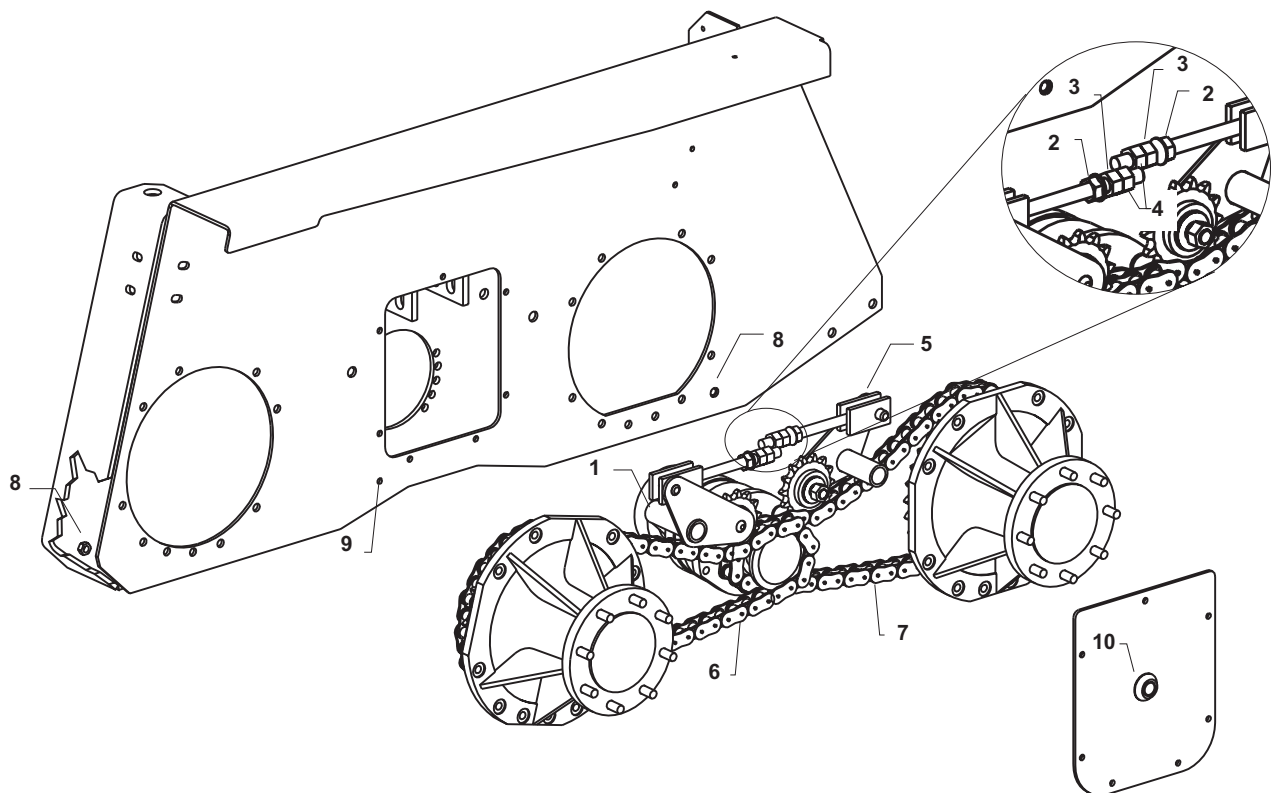

Fig. 7-2: Adjusting Drive Chain Tension - Left side shown, right side typical
Drive Chains (Fig. 7-2)
6. The correct chain deflection is 1/2" (12 mm) minimum on the side opposite from the adjuster - halfway between the sprockets (fig. 7-2).
9. Reinstall the chaincase access covers using oil resistant RTV or equivalent between the cover and the chaincase. If necessary, replenish the chaincase oil level until oil runs out of the oil level check plug (fig. 7-2).